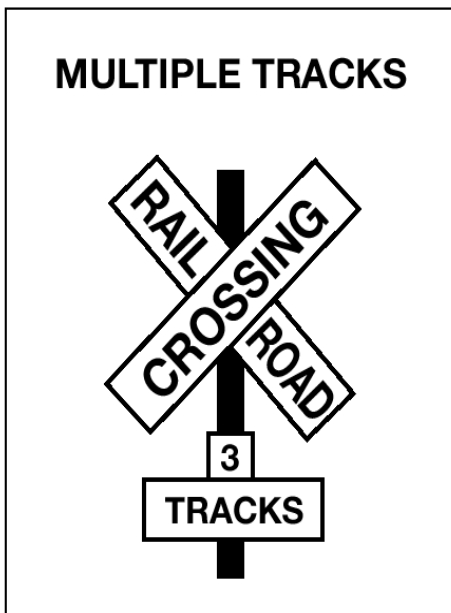

Figure 10.7
**Cross-buck Signs.** This sign marks the crossing. It requires you to yield the right-of-way to the train. If there is no white line painted on the pavement, you must stop the bus before the cross-buck sign. When the road crosses over more than one set of tracks, a sign below the cross-buck indicates the number of tracks. See Figure 10.7.